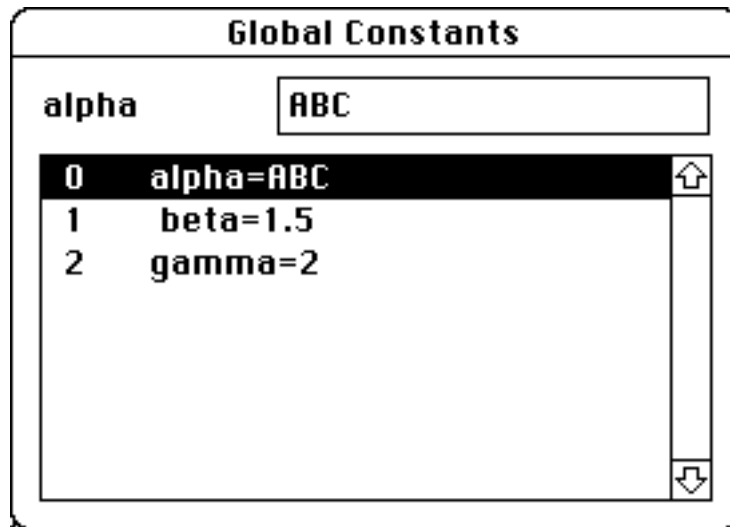

Figure 5-20 List Box for Editing Global Constants
1. Select the **Edit->Edit Constants** command from the menu. A list box is displayed as shown in Figure 5-20.